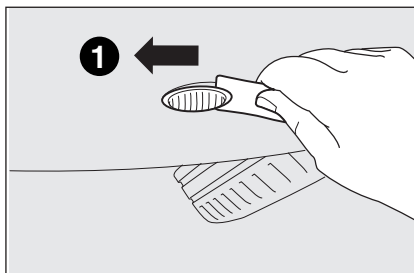

fig. 16a
- ☐ lever the lens off, by initially applying force from the front towards the back (**1**-fig. 16a);